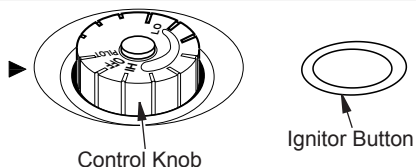

Figure 18 - Control Knob in the OFF Position
4. Wait five (5) minutes to clear out any air. Then smell for gas, including near the floor. If you smell gas, STOP! Follow "B" in the safety information, page 16. If you do not smell gas, go to the next step.
5. Turn control knob counterclockwise to the PILOT position. Press in control knob for five (5) seconds (see Figure 18).